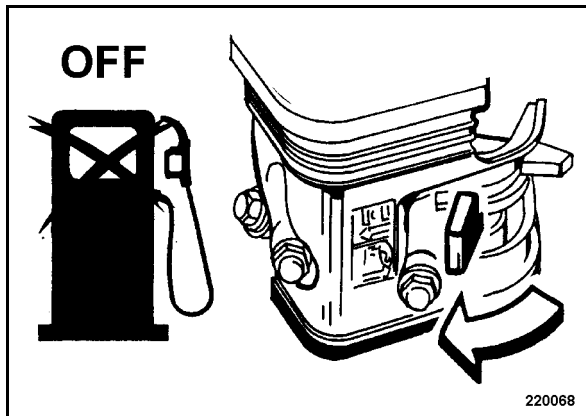

Fig. 28
- Close the fuel tap (Fig. 28) by turning in direction of arrow.